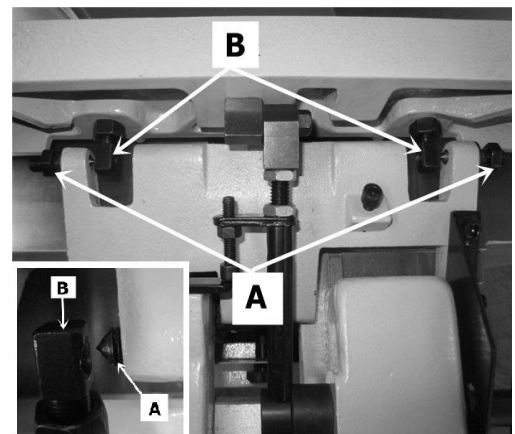

Figure 6
4. Loosen the two cone screws on the fence carriage (A Fig. 6), line up with the two cone nuts on the fence (B Fig. 6).
5. Tighten cone screws while adjusting the flexibility of the fence by tilting the fence. When the fence is secured and also properly flexible, tighten the nut on cone screws(C Fig. 6).